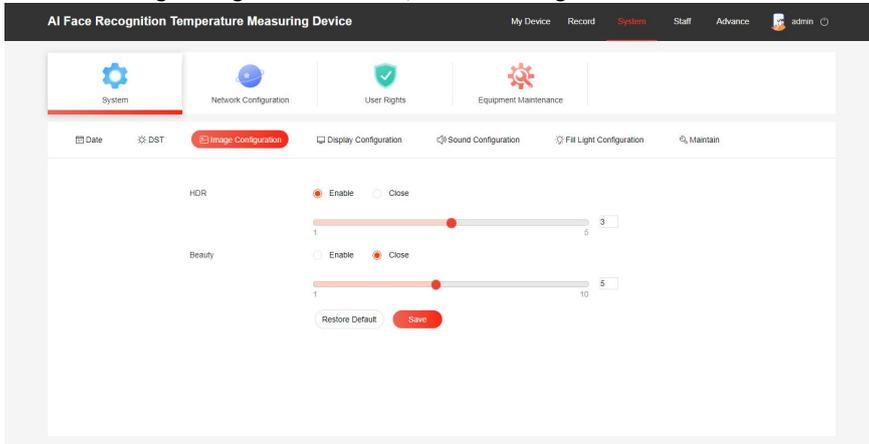

Figure 7-7
Step 1:After logging in to the web page, click "System → System → Image Configuration" to enter the image configuration interface, as shown in Figure 7-7 below.